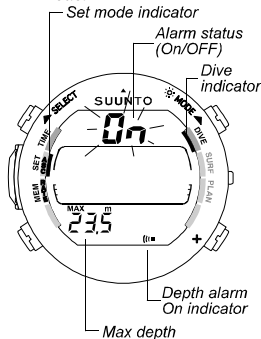

Fig. 5.9 Depth Alarm Setting Mode is activated.
2. Wait two seconds until the Depth Alarm Setting Mode activates automatically. The dive mode indicator appears and the alarm status [On/OFF] starts to blink on the display (Fig. 5.9). The alarm status [On/OFF] is blinking because it is selected.